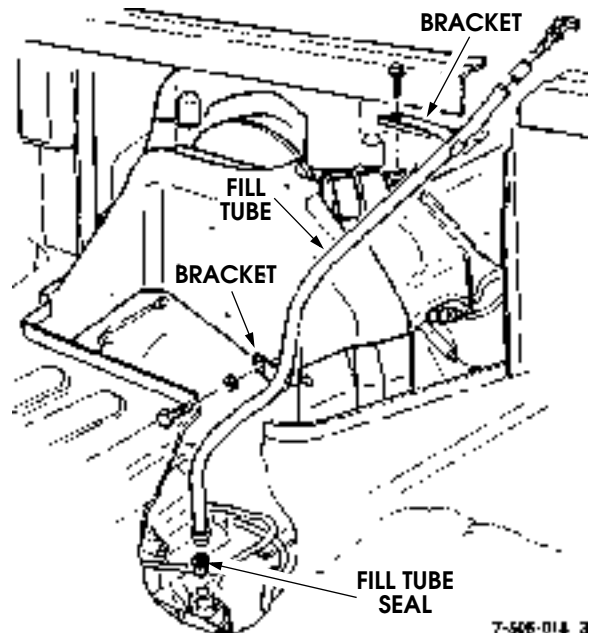

Figure 5-44: Fill Tube Attachment
2. Remove bolts attaching transmission fill tube to heat shield and intake manifold (Figure 5-44). Then remove fill tube from transmission case. Cover fill tube bore in case to prevent dirt entry.